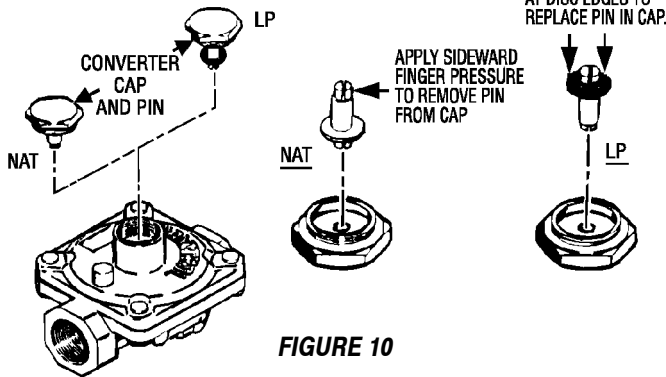

FIGURE 10
B. INVERT CAP IN APPLIANCE PRESSURE REGULATOR (See figure 10)
REGULATOR (See figure 10)
B. INVERT CAP IN APPLIANCE PRESSURE REGULATOR. (See figure 10).